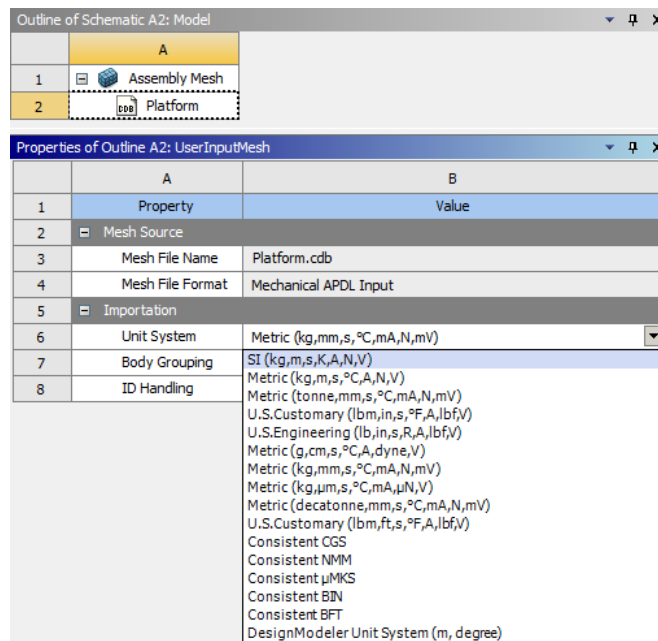

Figure 2.4. Choosing SI system
- Choose a **Model** field of the scheme project then choose the name of the imported file (**Platform.cdb**) and choose **SI** system in the **Unit System** properties field, see Figure 2.4.